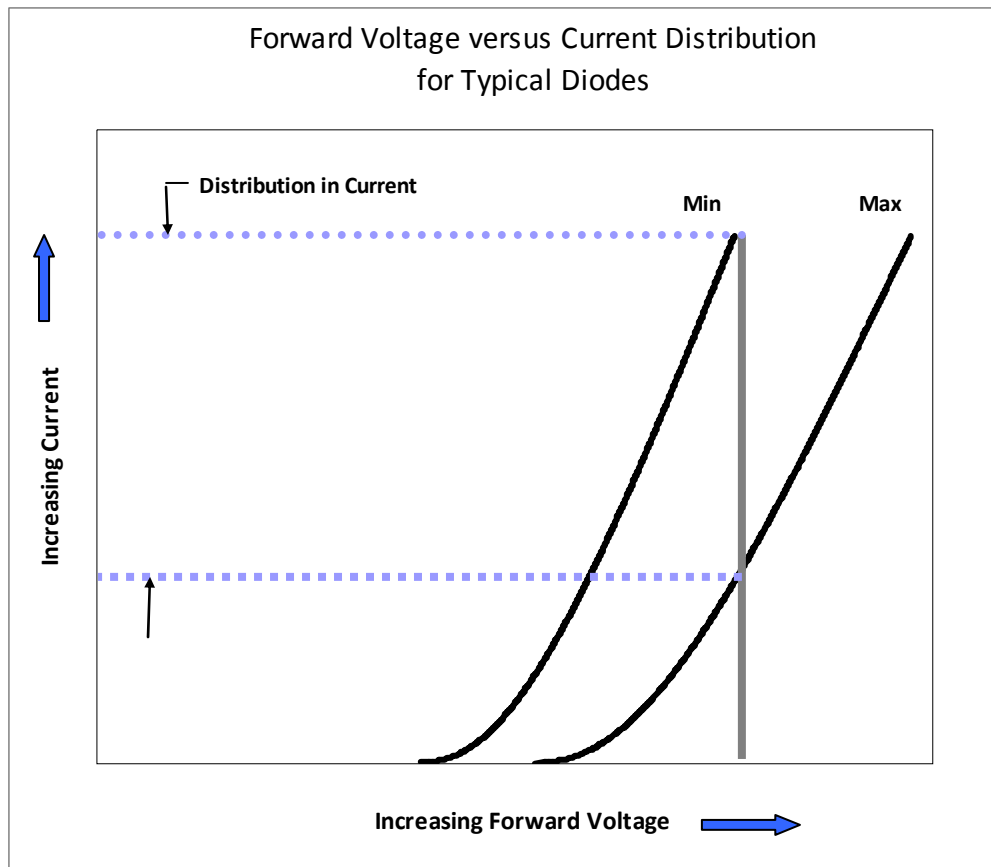

Figure 1: Distribution of forward current at constant forward voltage for a typical diode
1. The relationship between forward voltage and forward current forms a distribution of product performance. The range of the distribution is defined by minimum and maximum values and can be considered as nearly normal (Figure 1) with a minimum, typical and maximum value. The entire range of performance possibilities, not just the typical characteristics, must be considered when designing or selecting a driver. Output power and output voltage requirements for drivers must be designed for maximum forward voltage parts to ensure a successful design.